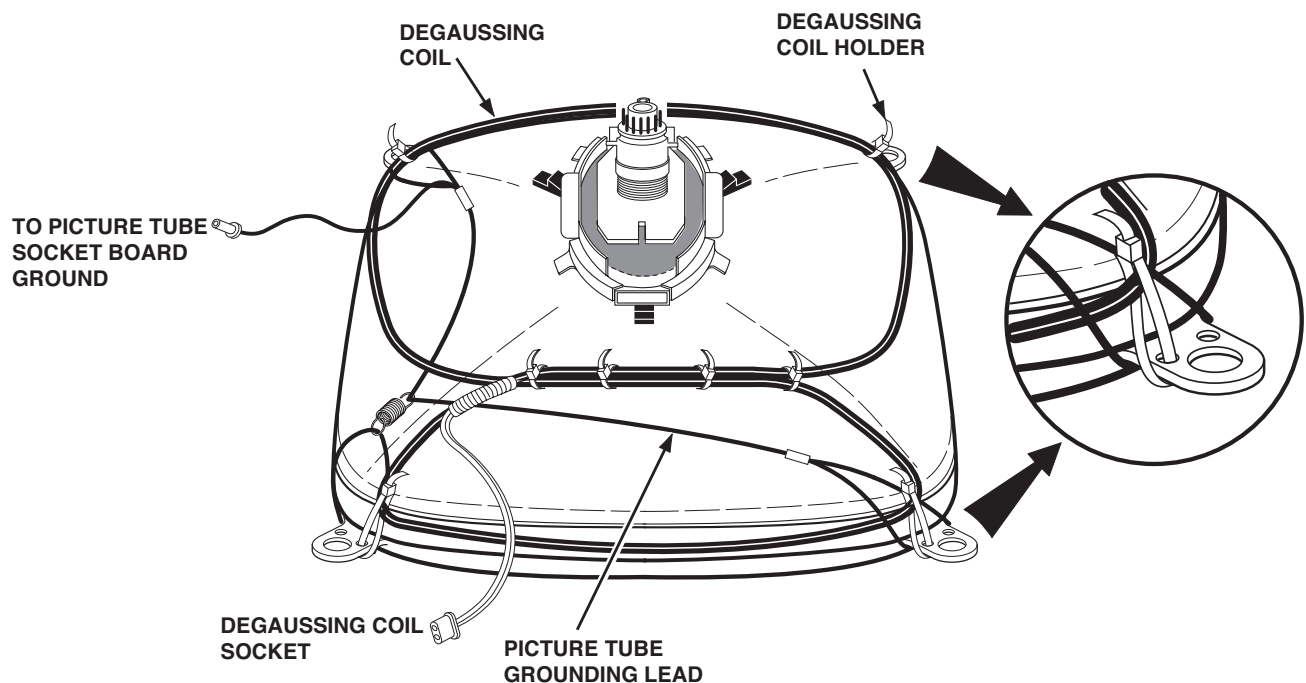

Figure 2. Picture Tube Removal
4. Install a replacement picture tube in reverse order. Properly install the degaussing coil and picture tube grounding lead on the picture tube. See Figure 2.
Note: If Picture Tube is being replaced, mount the Degaussing Coil properly on the replacement tube. See Figure 2.